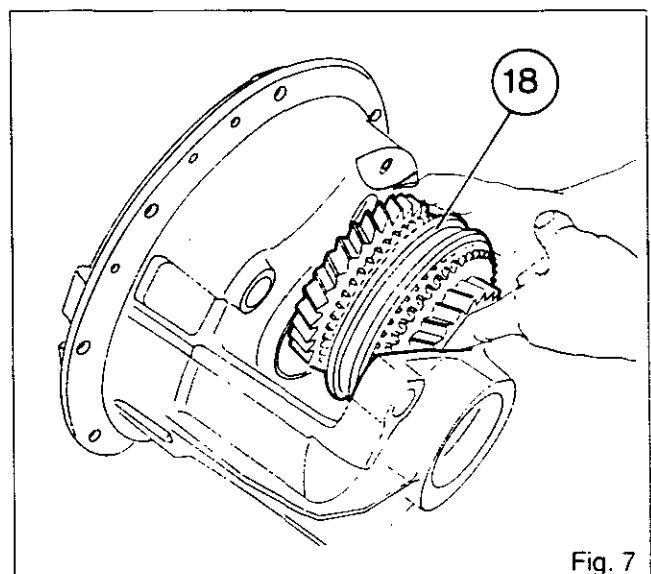

Fig. 7
- 25. Remove the gear and synchronism assembly (18) (Fig.7).
- 26. Take out bearing (9).
- 27. From the gear and synchronism assembly, separate: gear (5), bush (7), single-row needle-roller bearing (6), end ring (4), synchroniser brake (3), synchroniser (2), synchroniser brake (21), end ring (22), gear (23), and double-row needle-roller bearing (20).
- bearing (24) and washer /35\ (with speedshift).**N.B. : Mark which way round the washer fits.**
- 29. Withdraw seal /41\ from spacer (36) and discard it (if necessary).